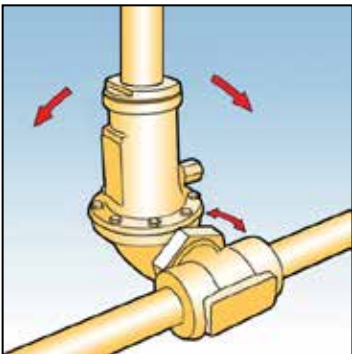

Fig. 2
8. The regulator can be installed in either horizontal or vertical plane with the spring housing rotated through 360°, via the universal nut to the required working position. See Fig. 2. The inlet gas should be filtered to between 50 and 200 micron. The installation should be tested for leaks before bringing the regulator into service.